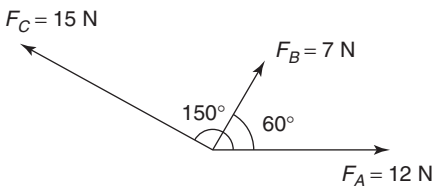

**Figure 3.13**
- Draw *oa* to scale to represent force  $F_1$  in both magnitude and direction (see Figure 3.13)
- (iv) The resultant vector is given by length  $oc$  in Figure 3.13. The direction of resultant  $oc$  is from where we started, i.e. point  $o$ , to where we finished, i.e. point  $c$ . When acting by itself, the resultant force, given by  $oc$ , has the same effect on the point as forces  $F_1$ ,  $F_2$  and  $F_3$  have when acting together. The resulting vector diagram of Figure 3.13 is called the **polygon of forces**.